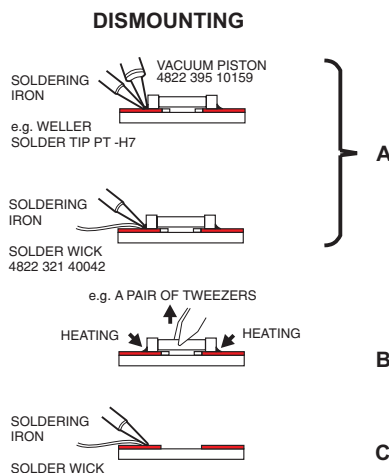

Fig. 8.1
- While holding the SMD with a pair of tweezers, take it off gently using the soldering iron's heat applied to each terminal (see Fig. 8.1 B).